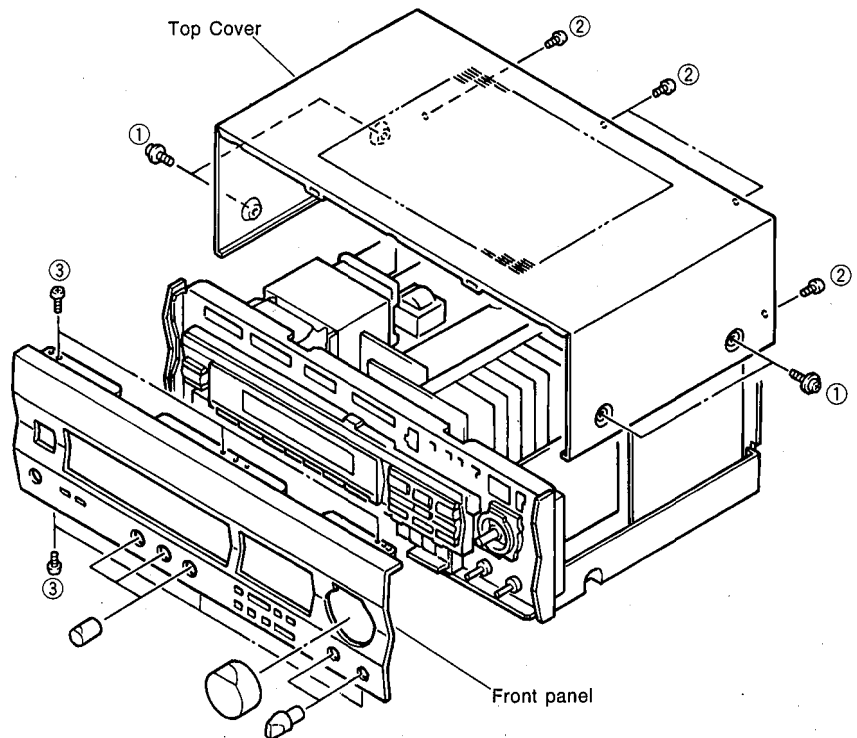

Fig. 1
- ⑤ P. C. B. TUNER
- ⑥ P. C. B. INPUT (6)
- ⑦ P. C. B. MAIN (3)
- ⑧ P. C. B. MAIN (1)
- ⑨ P. C. B. INPUT (5)
- ⑩ P. C. B. OPERATION (2)
- ⑪ P. C. B. INPUT (1)
- ⑫ P. C. B. INPUT (3)
a. Remove 4 screws ( ① ) and 4 screws ( ② ) in Fig. 1.
b. Remove 6 screws ( ③ ) in Fig. 1.